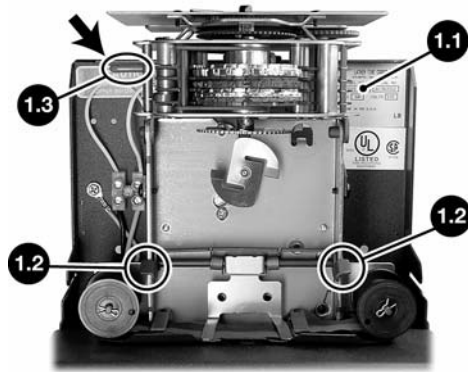

Figure 1
*Example: Since the fourth digit in the model number 2104 is a "4", it will print with 00-59 minutes and 00-23 hours (see table above). The model number is located on the **Label 1.1** positioned as shown in **Figure 1**.*
4. Press either side of the **Type Section Headlock** - Figure 1, 1.2 and pull upward on the lower part of the Clock Face until the Type Section locks in the up position as shown in Figure 1. Note position of the Overthrow Lever and the Setting Wheel.
5. Press the red **Overthrow Lever** - Figure 1, 1.3 away from you until it clicks. This releases the wheels allowing them to turn.